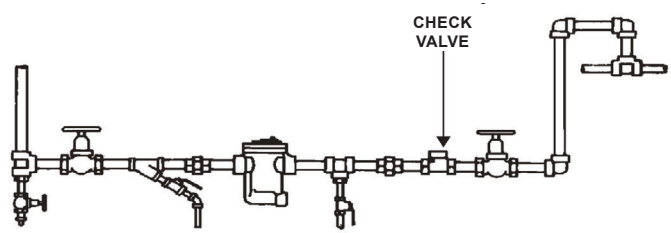

Figure 7. Dura-Flo with Pressurized Return Line Installation
- If there will be a pressurized return line or the trap drains to an overhead return line, install a check valve on return piping. See Figure 7.